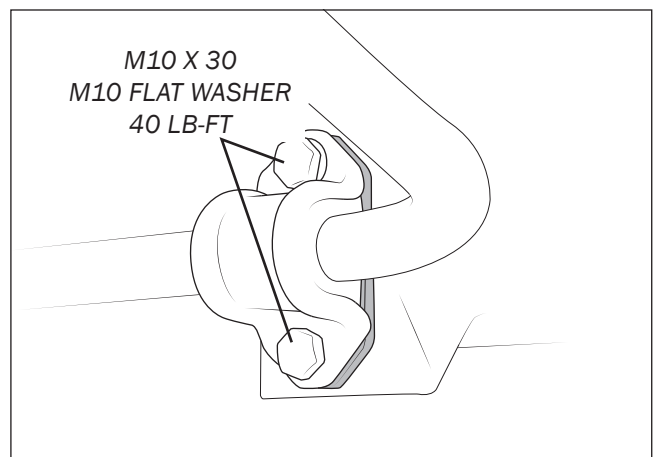

Figure 11
2. Install the sway bar spacer plate behind the right side of the sway bar with supplied hardware and torque to **40 lb-ft** (fig. 11).